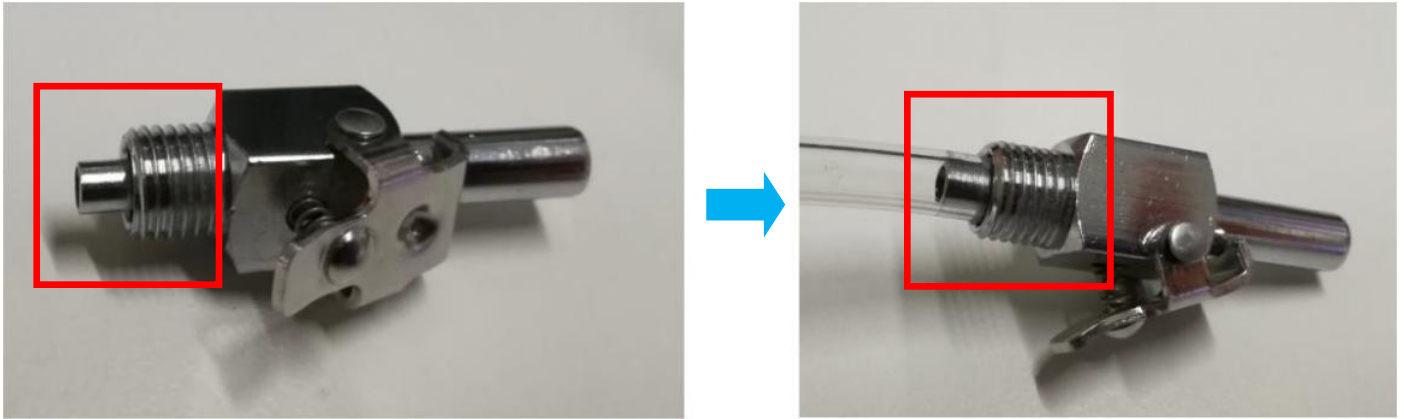

Figure 14
16. Plug the other end of tubing (Approximately 76mm) at Parker Clip Fitting. May refer to below Figure 14.